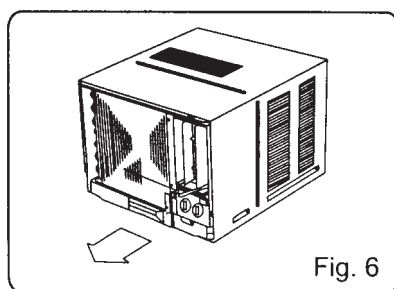

Fig. 6
2. Grasp the handle on the chassis and carefully slide the air conditioner out of the cabinet. (see Fig.6)